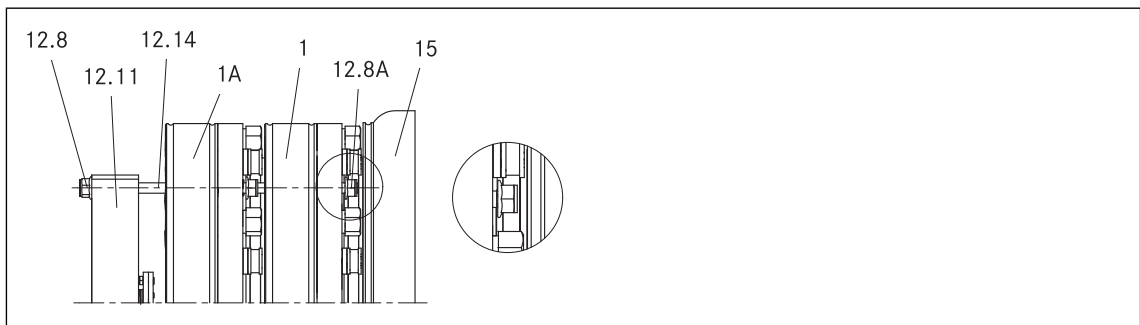

Fig. 17 Pre-assembly of the brake with manual release on the motor
8. Evenly tighten the brake with the six socket head cap screws (10) included in the scope of supply in several runs using a torque key (as shown in Figure 17).
10. Use a torque key to re-tighten the supplied fixing screws (10) with the required tightening torque ( 16).